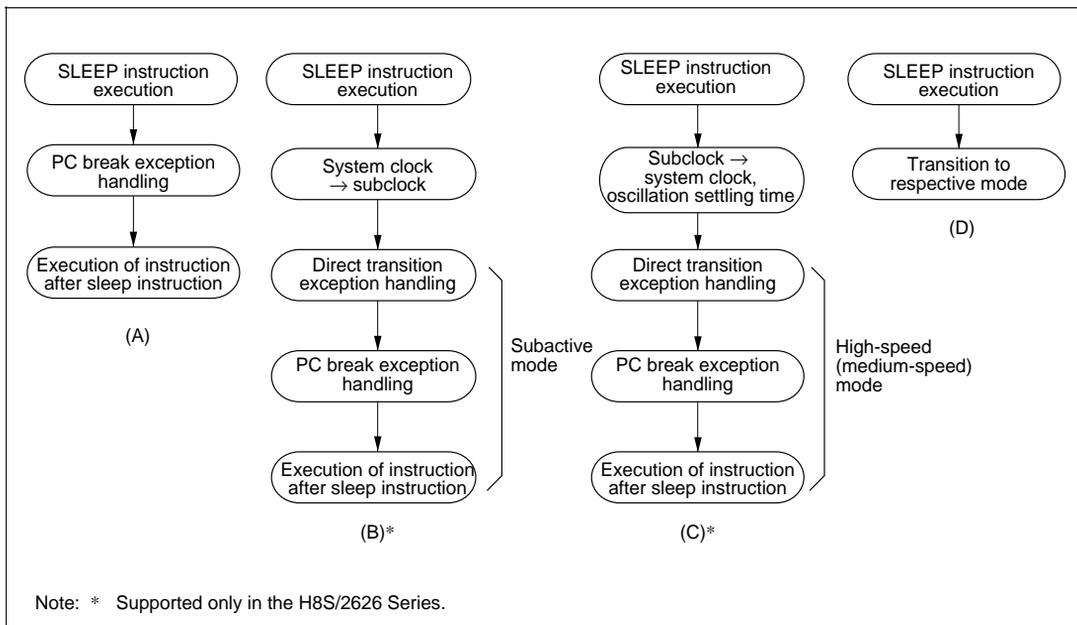

Figure 6-2 Operation in Power-Down Mode Transitions
- (1) When the SLEEP instruction causes a transition from high-speed (medium-speed) mode to sleep mode, or from subactive mode to subsleep mode:
After execution of the SLEEP instruction, a transition is not made to sleep mode or subsleep mode, and PC break interrupt handling is executed. After execution of PC break interrupt handling, the instruction at the address after the SLEEP instruction is executed (figure 6-2 (A)).
- (2) When the SLEEP instruction causes a transition from high-speed (medium-speed) mode to subactive mode:
After execution of the SLEEP instruction, a transition is made to subactive mode via direct transition exception handling. After the transition, PC break interrupt handling is executed, then the instruction at the address after the SLEEP instruction is executed (figure 6-2 (B)) (Supported only in the H8S/2626 Series).
- (3) When the SLEEP instruction causes a transition from subactive mode to high-speed (medium-speed) mode:
After execution of the SLEEP instruction, and following the clock oscillation settling time, a transition is made to high-speed (medium-speed) mode via direct transition exception handling. After the transition, PC break interrupt handling is executed, then the instruction at the address after the SLEEP instruction is executed (figure 6-2 (C)) (Supported only in the H8S/2626 Series).
(4) When the SLEEP instruction causes a transition to software standby mode or watch mode:
After execution of the SLEEP instruction, a transition is made to the respective mode, and PC break interrupt handling is not executed. However, the CMFA or CMFB flag is set (figure 6-2 (D)).